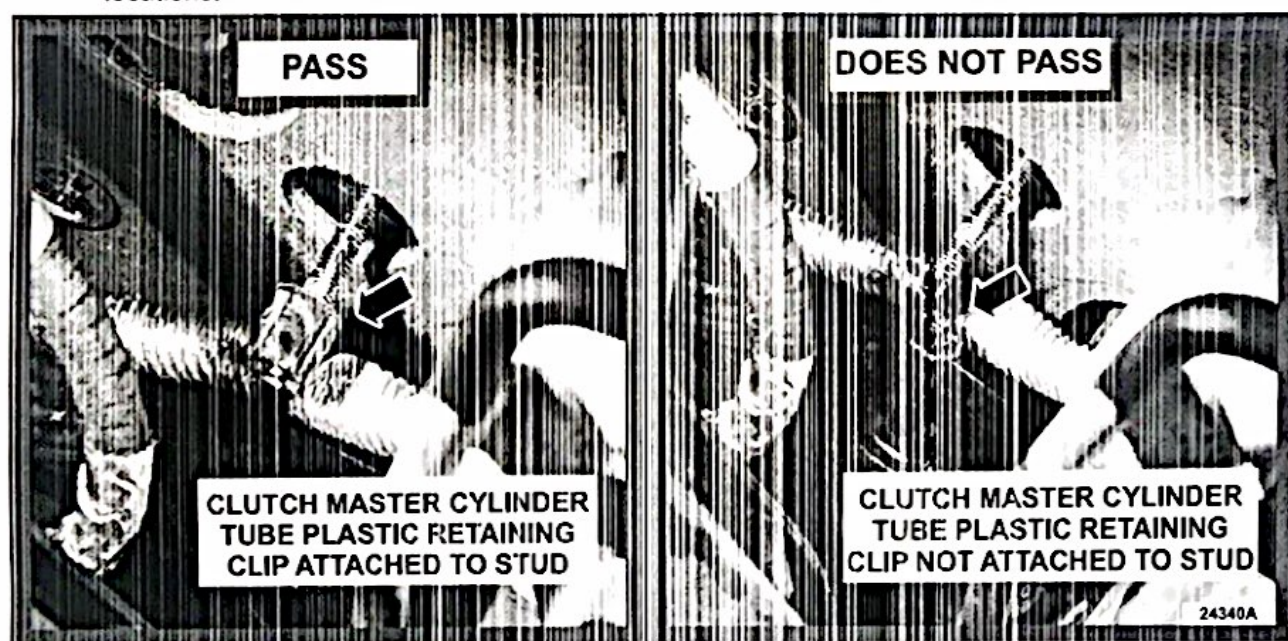

FIGURE 1
1. Inspect the clutch master cylinder tube plastic retaining clip attached to the associated stud on the dash panel. Is the clutch master cylinder tube retaining clip attached to the stud? See Figures 1 and 2.